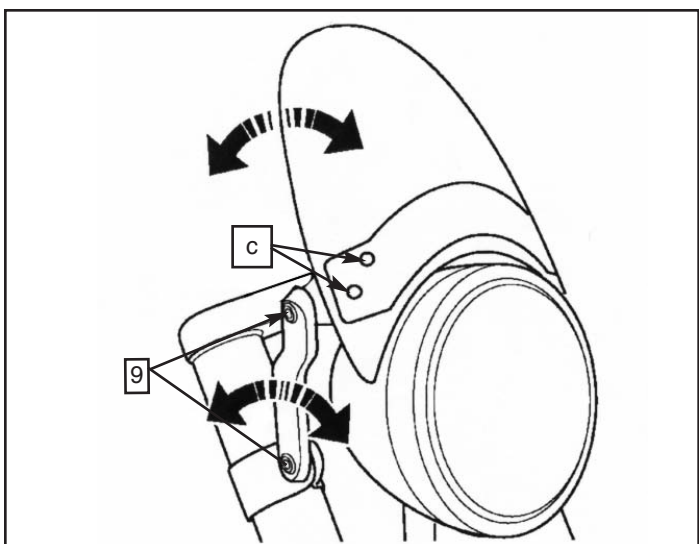

Figure 6
11. Adjust the Windshield to the desired position and securely tighten the 4 Screws (7). (**6mm Hex Wrench**) **Figure 6**
12. Securely tighten the 4 Screws in the Windshield Plate Bracket (c) (**4mm Hex Wrench and 10mm Socket**) **Figure 6**